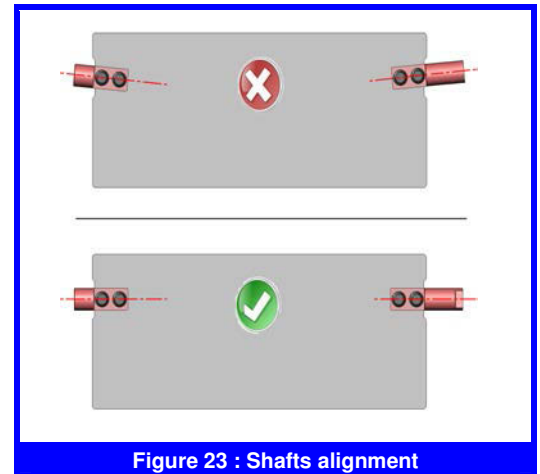

Figure 23 : Shafts alignment
**When assembling the suction valves, be particularly careful to align the guide and drive shafts to ensure operation without jamming. (Figure 23)**